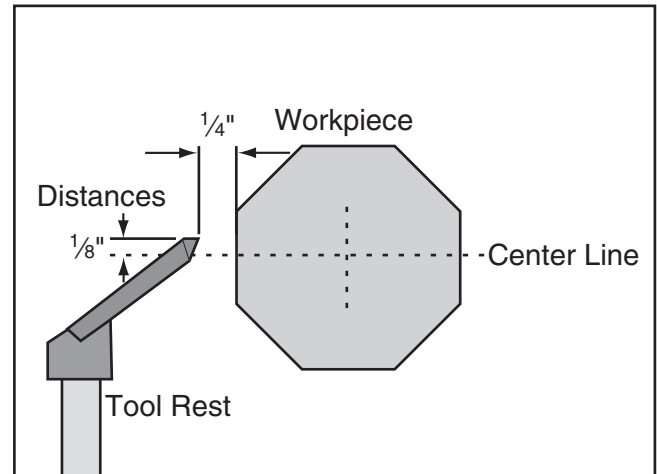

Figure 35. Tool rest set $\frac{1}{8}$ " above the center line and $\frac{1}{4}$ " away from workpiece.
- Position the tool rest approximately $\frac{1}{4}$ " away from the workpiece and approximately $\frac{1}{8}$ " above the center line, as illustrated in **Figure 35**.